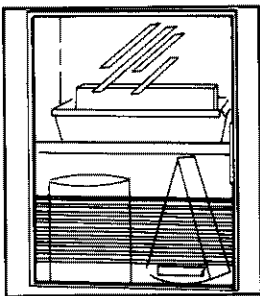

FIGURE 82
**Dairy Storage.** On 20, 22 and 25 cubic foot models, store butter and cheese in an adjustable dairy module complete with top door full-length shelf, two dairy compartments with sliding door and three food storage containers. The 19 cubic foot model features one large dairy compartment with two condiment trays and three food storage containers. See Figure 82. (**Note:** When washing butter dish, place dish on top rack of dishwasher.)